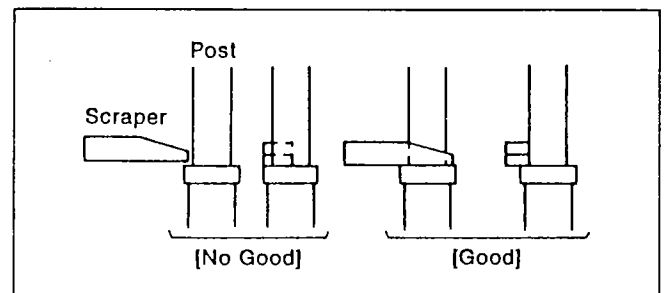

Figure M5
4. Place the scraper of Reel Table Height Gauge as shown in Figure M5. Set the gauge to zero, then raise the post slowly until the lower tape guide just touches the bottom of the scraper. Use the gauge to determine the exact point at which the lower tape guide touches the scraper.